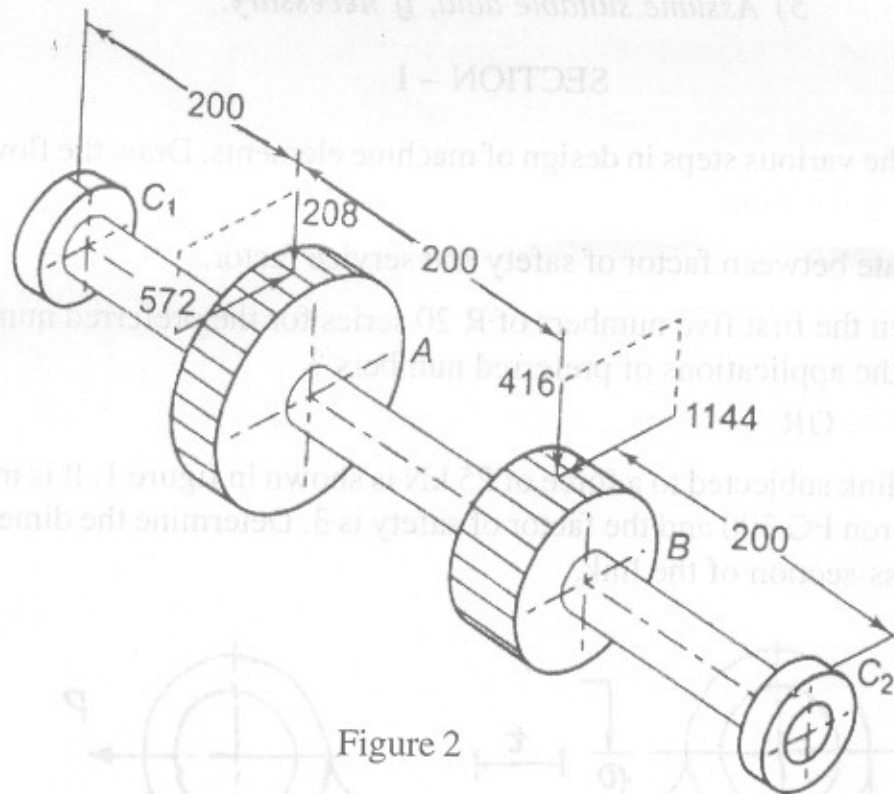

Figure 2
3. a) A gearbox shaft supporting two spur gears A and B and mounted between two bearings C_1 and C_2 is shown in figure 2. The pitch circle diameters of gears A and B are 500 mm and 250 mm respectively. The shaft is made of alloy steel ($s_{ut} = 620 \text{ N/mm}^2$ and $s_{yt} = 480 \text{ N/mm}^2$). The factors K_b and K_t of the ASME code are 2 and 1.5 respectively. The gears are keyed to the shaft. Determine the shaft diameter using ASME code.